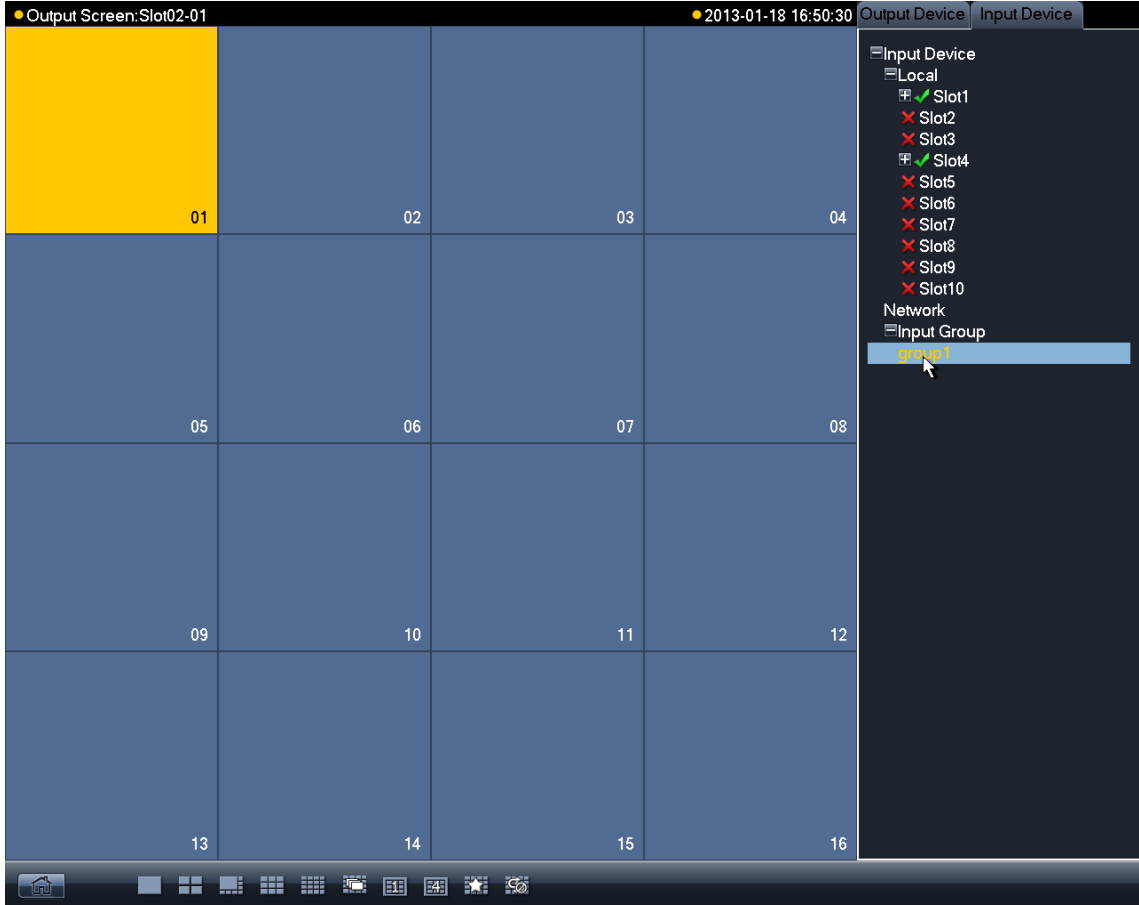

Figure 3-15
Step 6 In output device list, double click output channel name and select one output channel. Its corresponding window turns yellow, as shown in Figure 3-15.